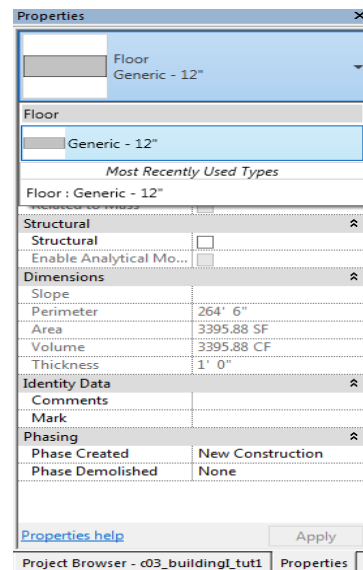

Figure 3-89 Selecting the **Generic 12"** floor type
10. By default, **Floor : Generic 12"** option from the **Type Selector** drop-down list in the **Properties** Palette is selected, as shown in Figure 3-89.